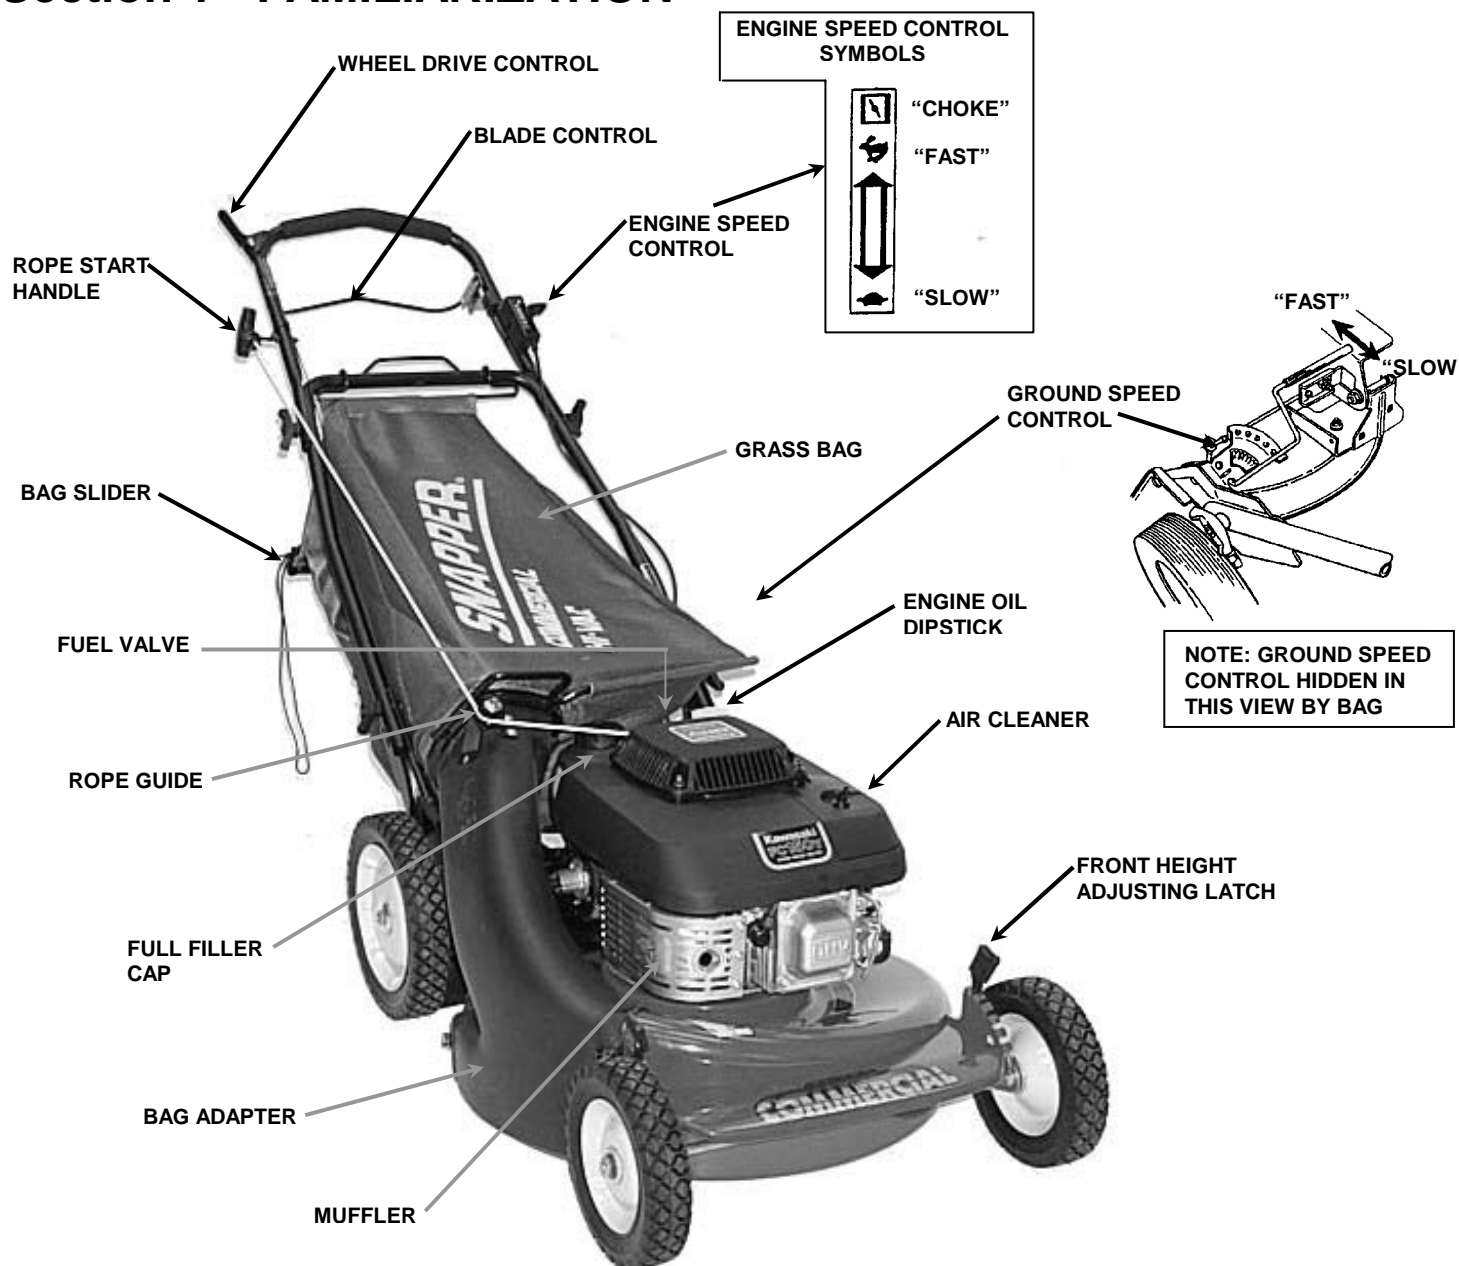
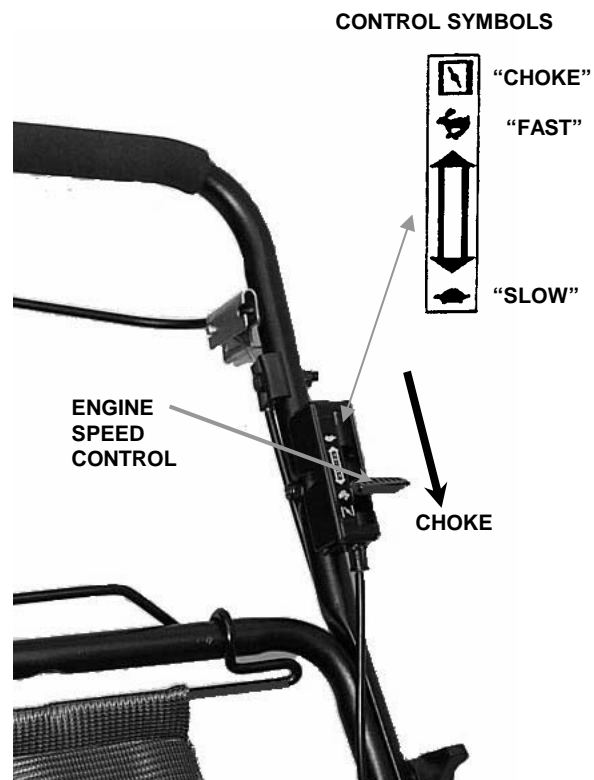

FIGURE 1.1
FIGURE 2.3
The nomenclature figure above, Figure 1.1, shows the essential parts of the SNAPPER WALK BEHIND MOWERS. It is recommended that all operators of the mower become thoroughly familiar with the controls, parts and operation of the mower before operating. Specific details involving the engine are found in the separate engine owner's manual. Study these manuals before operating and keep both handy for future reference.
**1.** Turn fuel valve to on. See Figure 1.1. Move engine speed control to the "choke" position. The choke should not be required to restart a hot engine. See Figure 2.3.
4. After engine starts, move engine speed control away from the choke position to the "Fast" (Rabbit) position. See Figure 2.3.